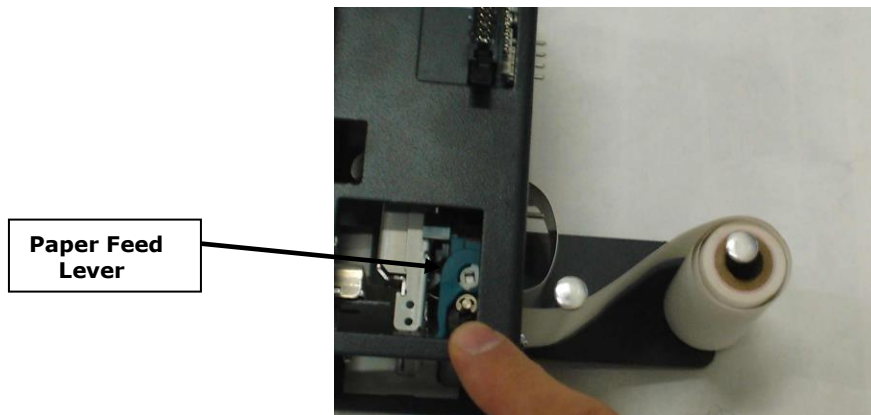

Figure P2: AC7084 Printer – Side View, with Paper
1. If there is paper remaining on the previous roll, it must be removed before proceeding. Move the "Paper Feed Lever" from the DOWN to the UP position (refer to Figure P2), and then pull out the remaining paper from the rear of the printer and discard the roll.